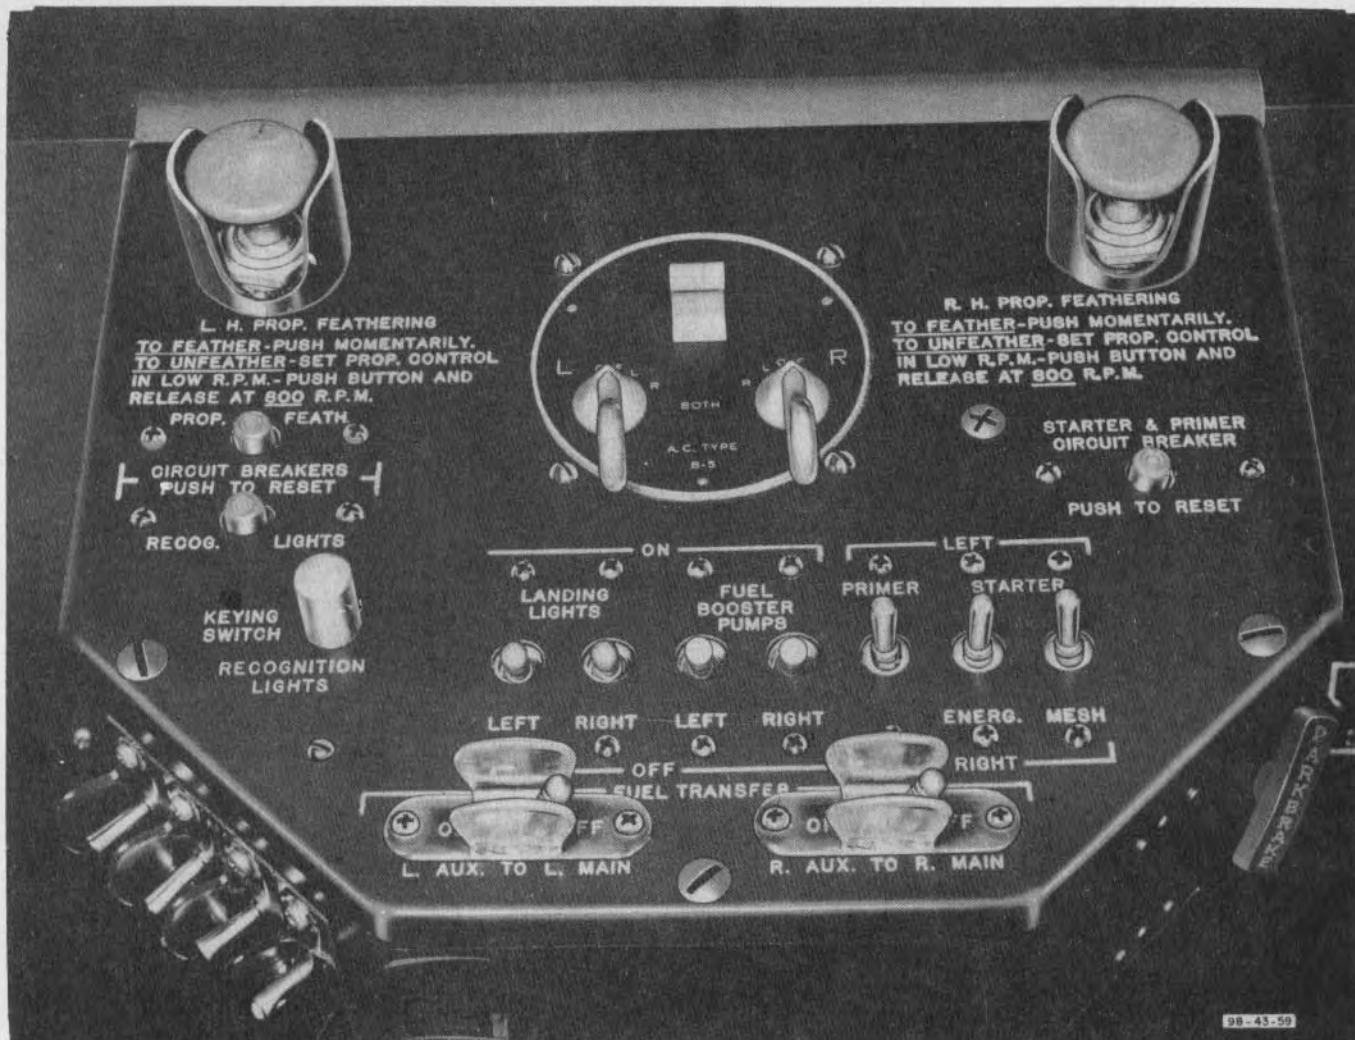

Figure 26—Control Pedestal Switch Panel
(11) Turn "ON" the fuel booster pump switches, located on the control pedestal switch panel (see figure 26). Check the fuel pressure gage for 4 to 5 lbs./sq.in. pressure.
(12) Turn "ON" the ignition safety switch, located on the pilot's control pedestal.
(13) Turn the ignition switch for the engine to be started first to the "BOTH" position.
(14) Press starter energizing switch on control pedestal switch panel to "LEFT" or "RIGHT," depending on which engine is being started first, and hold in place for a maximum of 10 seconds when using an external power source (battery cart), or 20 seconds when using the airplane's batteries.